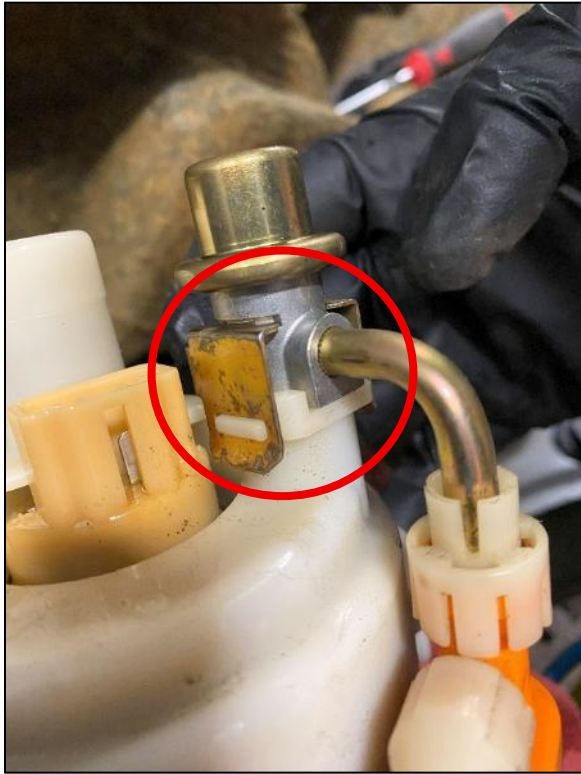

Figure 8
14. Remove the Metal Clip securing the Pressure Regulator to the lower half. Retain this Clip as it will be reused. *Figure 8.*